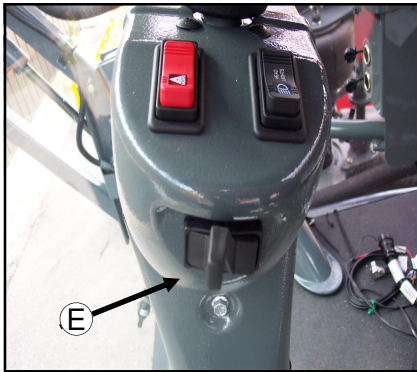

FIG. 4.1-2
**TURN SIGNALS**– To activate the front turn signals (fig. 4.2-3) and the rear turn signals (fig. 4.2-4 and 5), move the turn signal lever (fig. 4.1-2, item E) forward, away from the operator, to signal a right turn; or back, toward the operator, to signal a left turn. Steering column– mounted turn signal indicators will correspondingly flash when either turn signal is activated. The turn signal switch is not a self-centering switch; you must return it to the “OFF” position by hand after completing your turn.